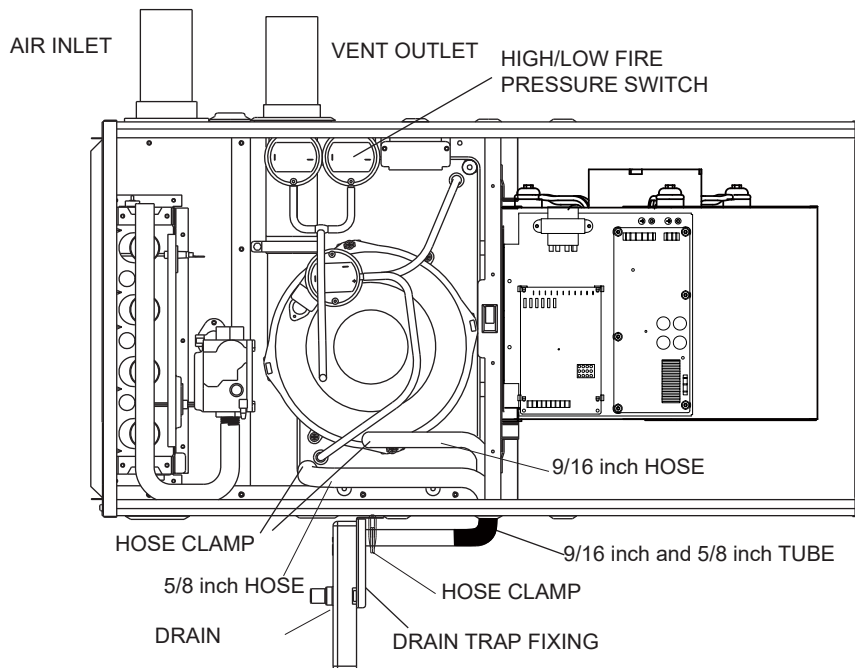

Fig. 6-11 Horizontal Left Side Installation, Vent Through Side Panel
3. Air discharge to the left and vent through furnace right side panel (see Fig.6-11)